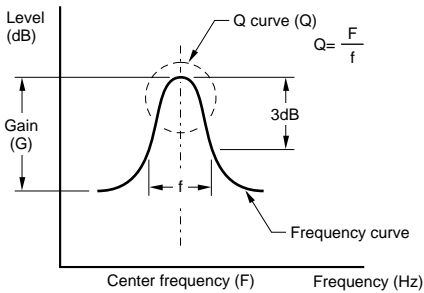

Figure 1
See Figure 1 concerning the relationship of the center frequency, Q-curve (Q) and gain.